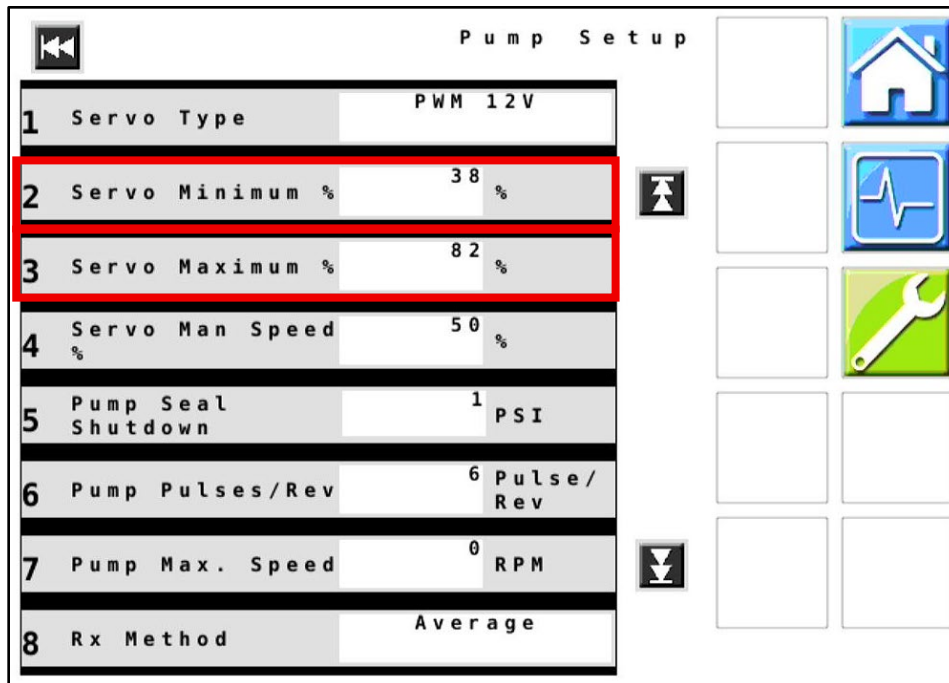

Figure 11 — Pump Setup – Page 1
27. **Figures 11:** Enter the numbers calculated in the previous step for the **Servo Minimum %** and **Servo Maximum %** values.